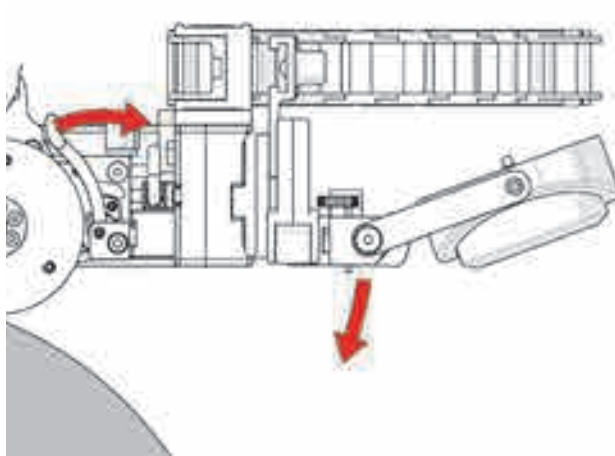

Figure 4-97 Pivot raster arm
6. Release the two levers on the swivel mount to allow pivoting of the raster arm (see Figure 4-97 on page 163).